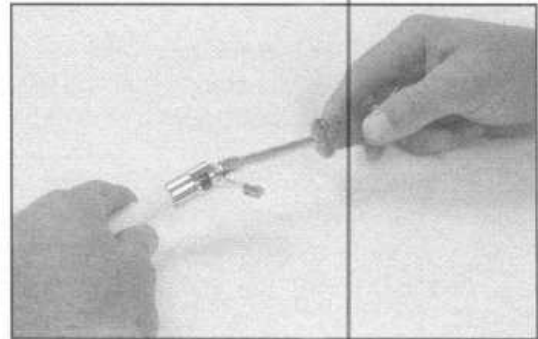

FIG 6-7
17. To remove the internal valve components from the inlet tube (15) refer to figure 6-7 and proceed as follows. Hold the demand poppet (7) with the poppet tool while turning the locking nut (19) with a 1/4" nut driver in a counter-clockwise direction. Continuously apply a slight amount of inward pressure on the demand poppet, to avoid sudden ejection as it disengages from the locking nut.